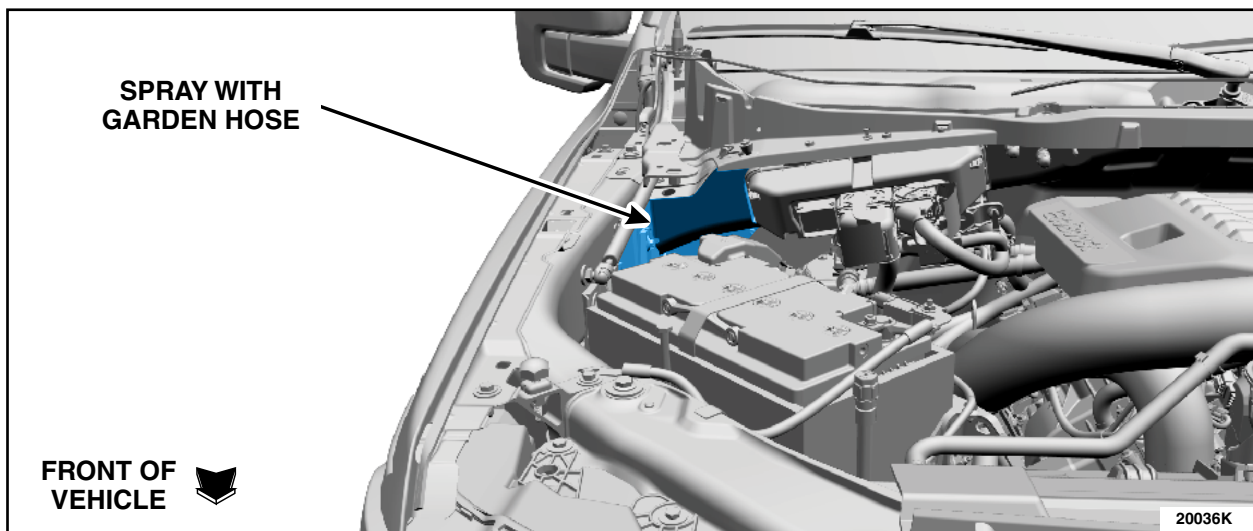

FIGURE 11
19. Using a garden hose, spray the upper RH side of the engine compartment fire wall. See Figure 11.